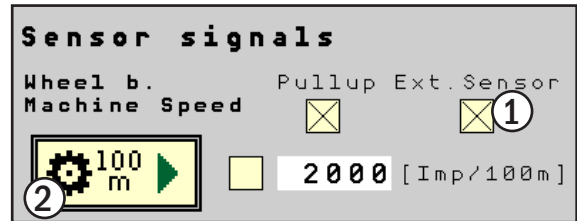
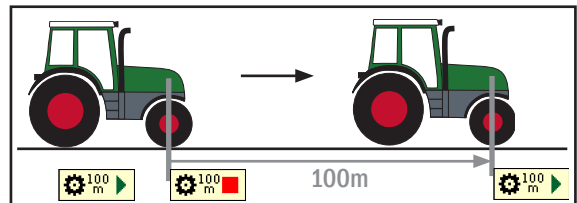

Fig. 82: Sensor signals – Determine pulse rate of an external sensor
Fig. 83: Drive 100 meters
- Activate the checkbox (1) in Fig. 82 to accept the external sensor as a pulse generator.
- Press the 100m soft key (see Fig. 82 - 2). The soft key icon turns red. Move at walking pace towards the end point (see Fig. 83).
Alternatively you can also activate the check box below "Ext. Sensor" (see Fig. 82 - 1) and specify a value between 5400 and 66900 Imp/100m.